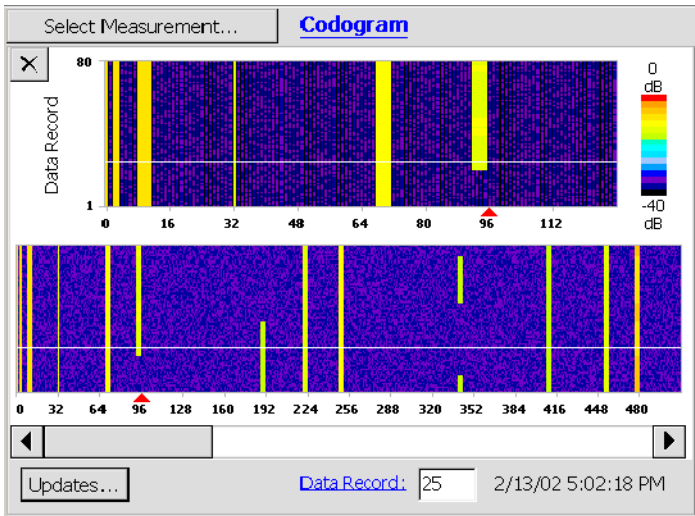

Figure 3-59: W-CDMA Codogram display
4. Tap **Codogram**. See Figure 3-59.